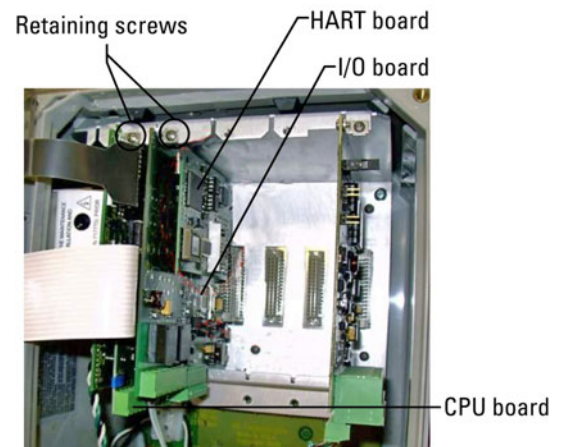

Figure 1. Inside the gauge transmitter
1. Both PROMs are located inside the gauge transmitter. Open the transmitter cover, and locate the HART board. It is piggybacked onto the I/O board, which is located to the right of the CPU. See Figure 1.